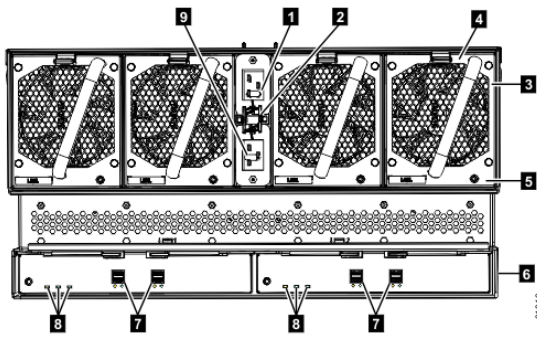

Figure 141. Features on the rear of the 5U expansion enclosure
3. Verify that the expansion enclosure and its components are operating as expected. On the back of the expansion enclosure, all four fans and the expansion canister indicators (3 and 8 in Figure 141 on page 120) become active when the power is connected.